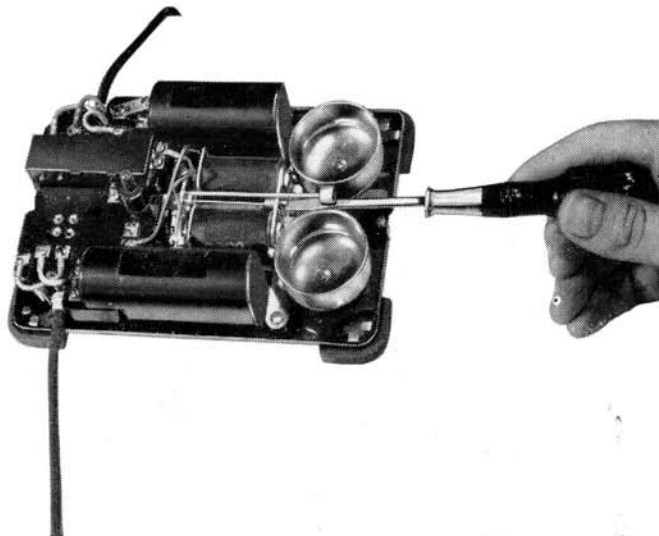
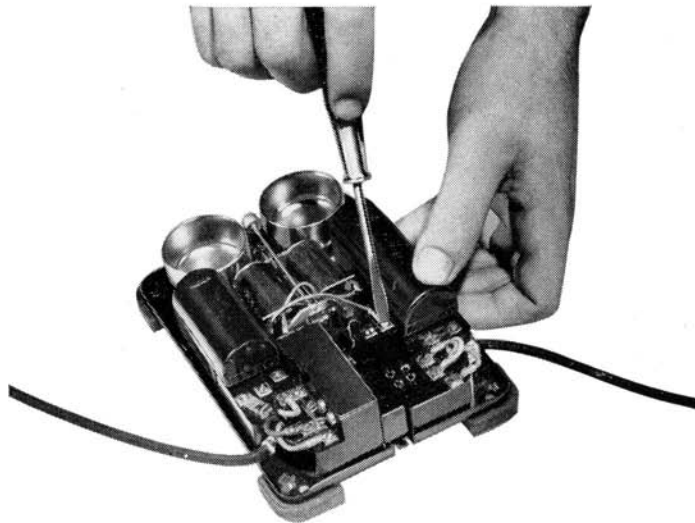

Figure 23 — Adjusting Tension on Biased Ringers
Figure 24 — Reversing Ringer Leads
Step 3—Adjust the tension on the biased ringers with a minimum amount of tension to prevent tapping (see figure 23).
Step 2—Reverse the ringer leads R1 and R2 on AC ringing systems (see figure 24). If this does not clear the trouble connect the ringer for the least objectionable tapping and increase the bias tension only to the point where bell tapping ceases (see figure 23).